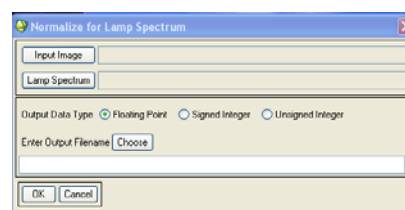

Figure 2. Lamp Spectrum Button
3. Then click the Normalize for Lamp Spectrum (see Figure 1) and the Normalize for Lamp Spectrum box will open (see Figure 2).